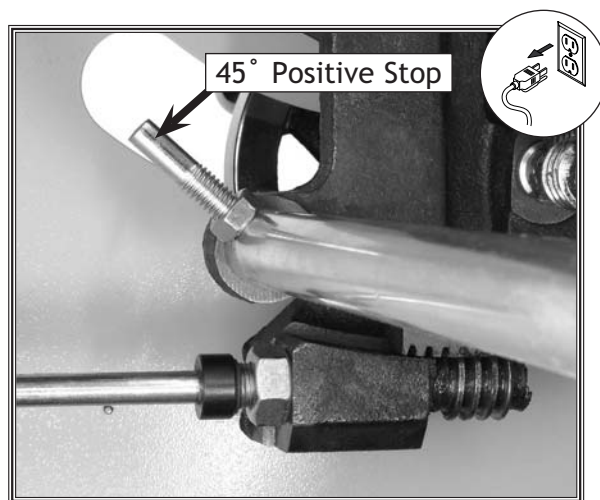

Figure 63. 45° Positive stop.
1. Reach through the back of the saw and locate the positive stop bolt shown in **Figure 63**.